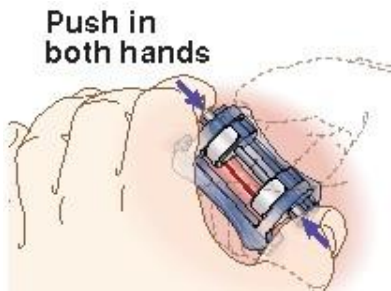

FIGURE 6
2. While maintaining pressure on the arms, press the release buttons with your other hand (See Fig. 6).